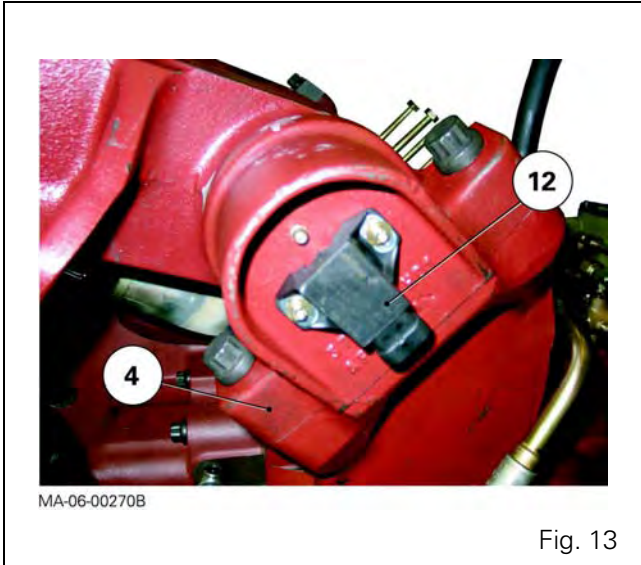

Fig. 13
13. Remove the position sensor (12) on the right-hand bearing (4) (Fig. 13).